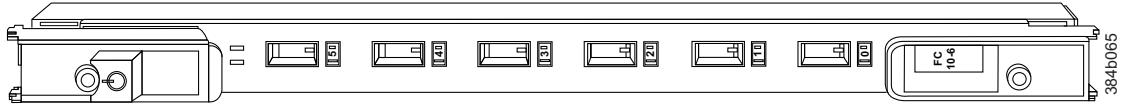

Figure 58. FC10-6 port blade, ports 0-5 from right to left
- Figure 58 on page 148 shows an FC10-6 port blade